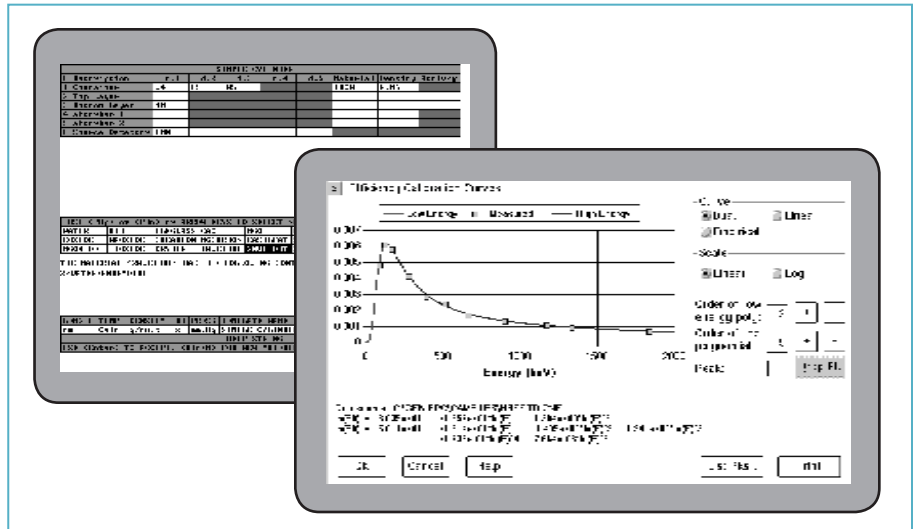

Figure 11
5. An ISOCS calibration is performed, using the appropriate geometry template and the sample measurements, as shown in Figure 11. This can be done during sample collection, if desired.
5. Launch ISOCS Calibration, as shown in Figure 11.